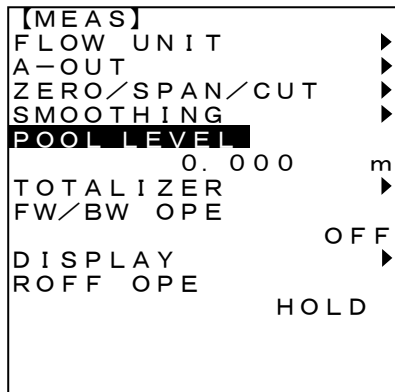

Fig. 4-7-3 Selection of POOL LEVEL
1. Move the cursor to POOL LEVEL with the <8/↑> or <2/↓> key. (Fig. 4-7-3)